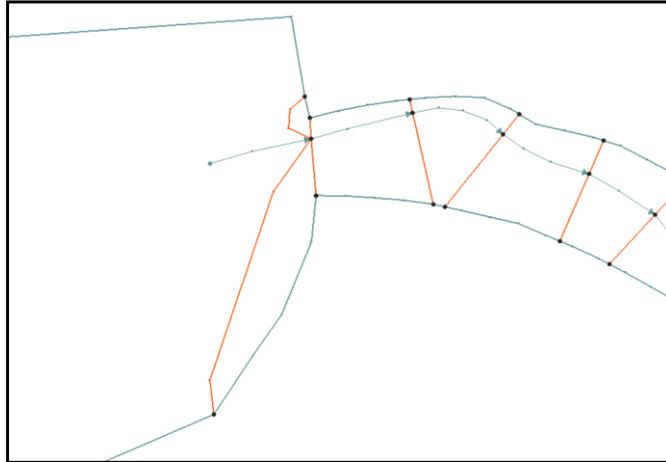

Figure 10 1D/2D Connection Arcs added at upstream end.
17. Using the **Create Feature Arc**  tool, and create two arcs connecting the upstream side of the 2D domain to the downstream node of the 1D weir boundary (Figure 10).